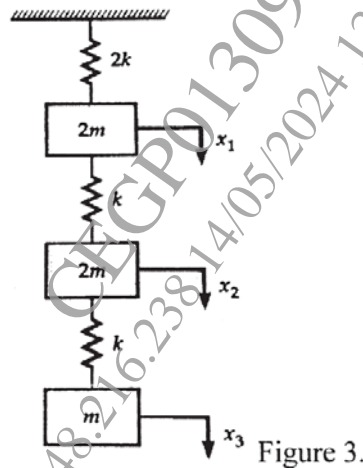

Figure 3.
- Q6) a) Using Matrix Method, determine only the natural frequencies of the system shown in figure. 3 [10]